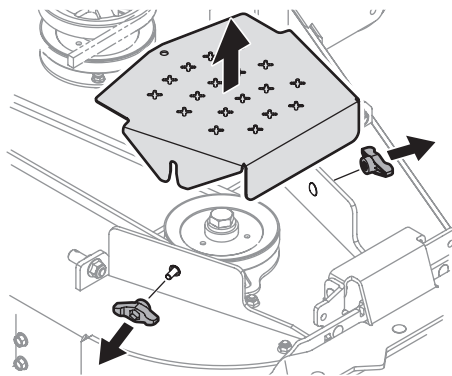

Figure 4-2
- Clean the top of the mower deck, under the spindle covers and belt area. See Figure 4-2.